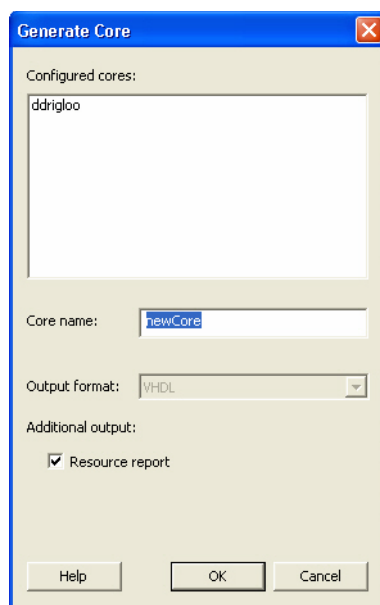

Figure 10-4 • Generate Core Window
4. Once the desired configuration is selected, click the **Generate** button. The Generate Core window opens (Figure 10-4).